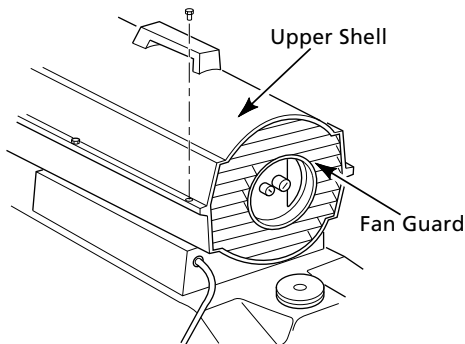

Figure 7 - Upper Shell Removal, Models 2E510F and 2E511F
1. Remove screws along each side of heater using 5/16" nut-driver. These screws attach upper and lower shells together (See Figures 7 and 8).
1. Remove upper shell (see Figures 7 and 8).
1. Remove upper shell (See Figures 7 and 8).